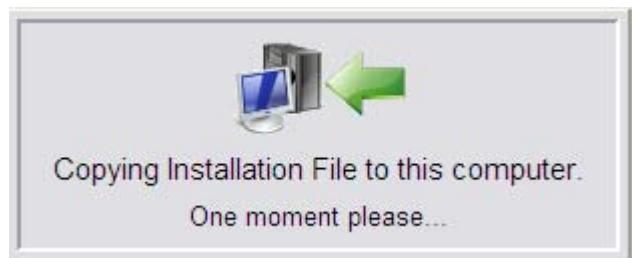

Figure 430
3. The slave will then copy the installation files from the Master computer (as shown in Figure 430).